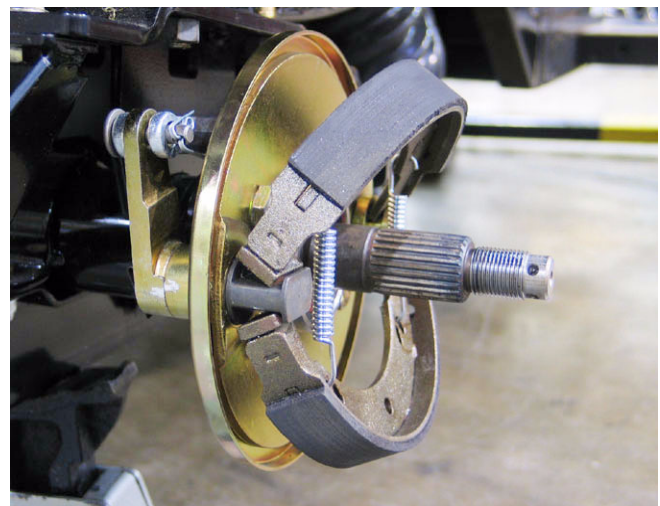

Figure 2.17
2.17. Place the lower shoe against the pivot point and by slightly stretching the springs install the lower shoe over the flat cam. See Figure 2.17.